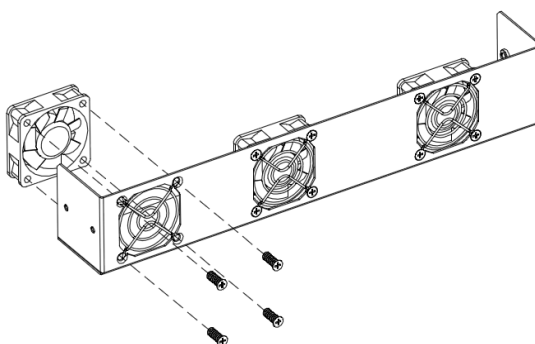

Fig 5.3 Replace the fan
- (8) Disassemble the damaged inverter fan as shown in Fig 5.3, then install the new fan back to its original position, and connect the fan power and control cable;